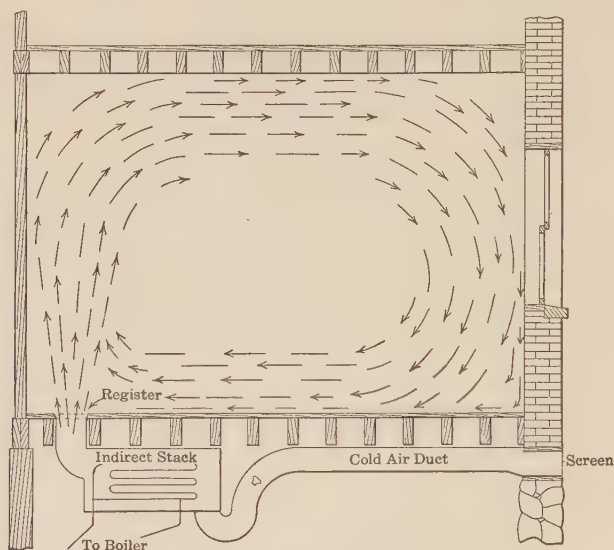

FIG. 37. — Indirect heating brings fresh air into the rooms.
36. Ventilation by indirect heating. In order to heat a room and to secure the same renewal of air that the flue radiator gives, without having the radiator in the room, the indirect heating method, shown in Fig. 37, is used. In this system a steam radiator is placed in a box-like chamber near the top of the cellar, and at least 2 feet above the water line in the boiler. Cold out-of-door air is brought through a duct to this chamber, is heated, and carried to the rooms by convection. A damper placed in the duct supplying the cold air should be so arranged that it will automatically shut off the air when the heat is shut off from the radiator.